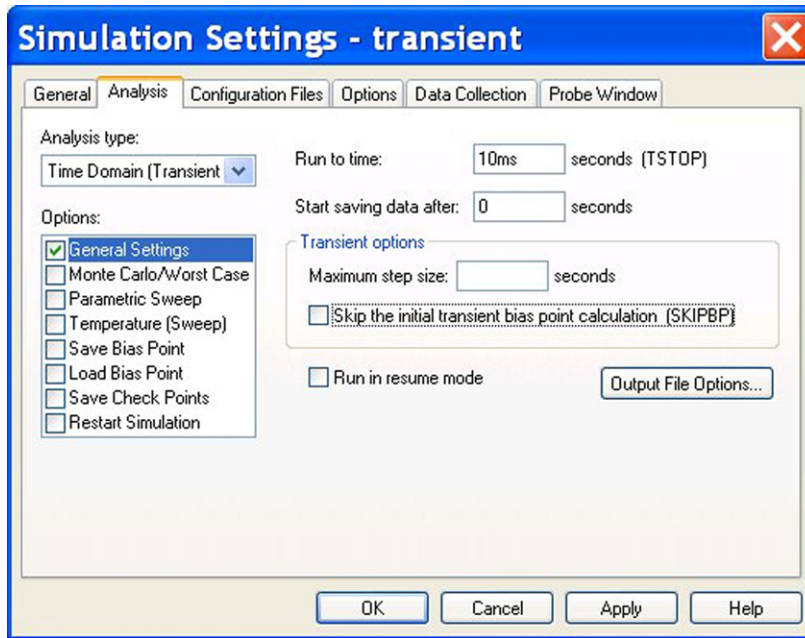

FIGURE 7.10
2. Create a PSpice simulation profile called **transient** and select **Analysis type:** to **Time Domain (Transient)** and enter a **Run to time** of 10 ms, which will display 10 cycles of the sinewave (Figure 7.10).